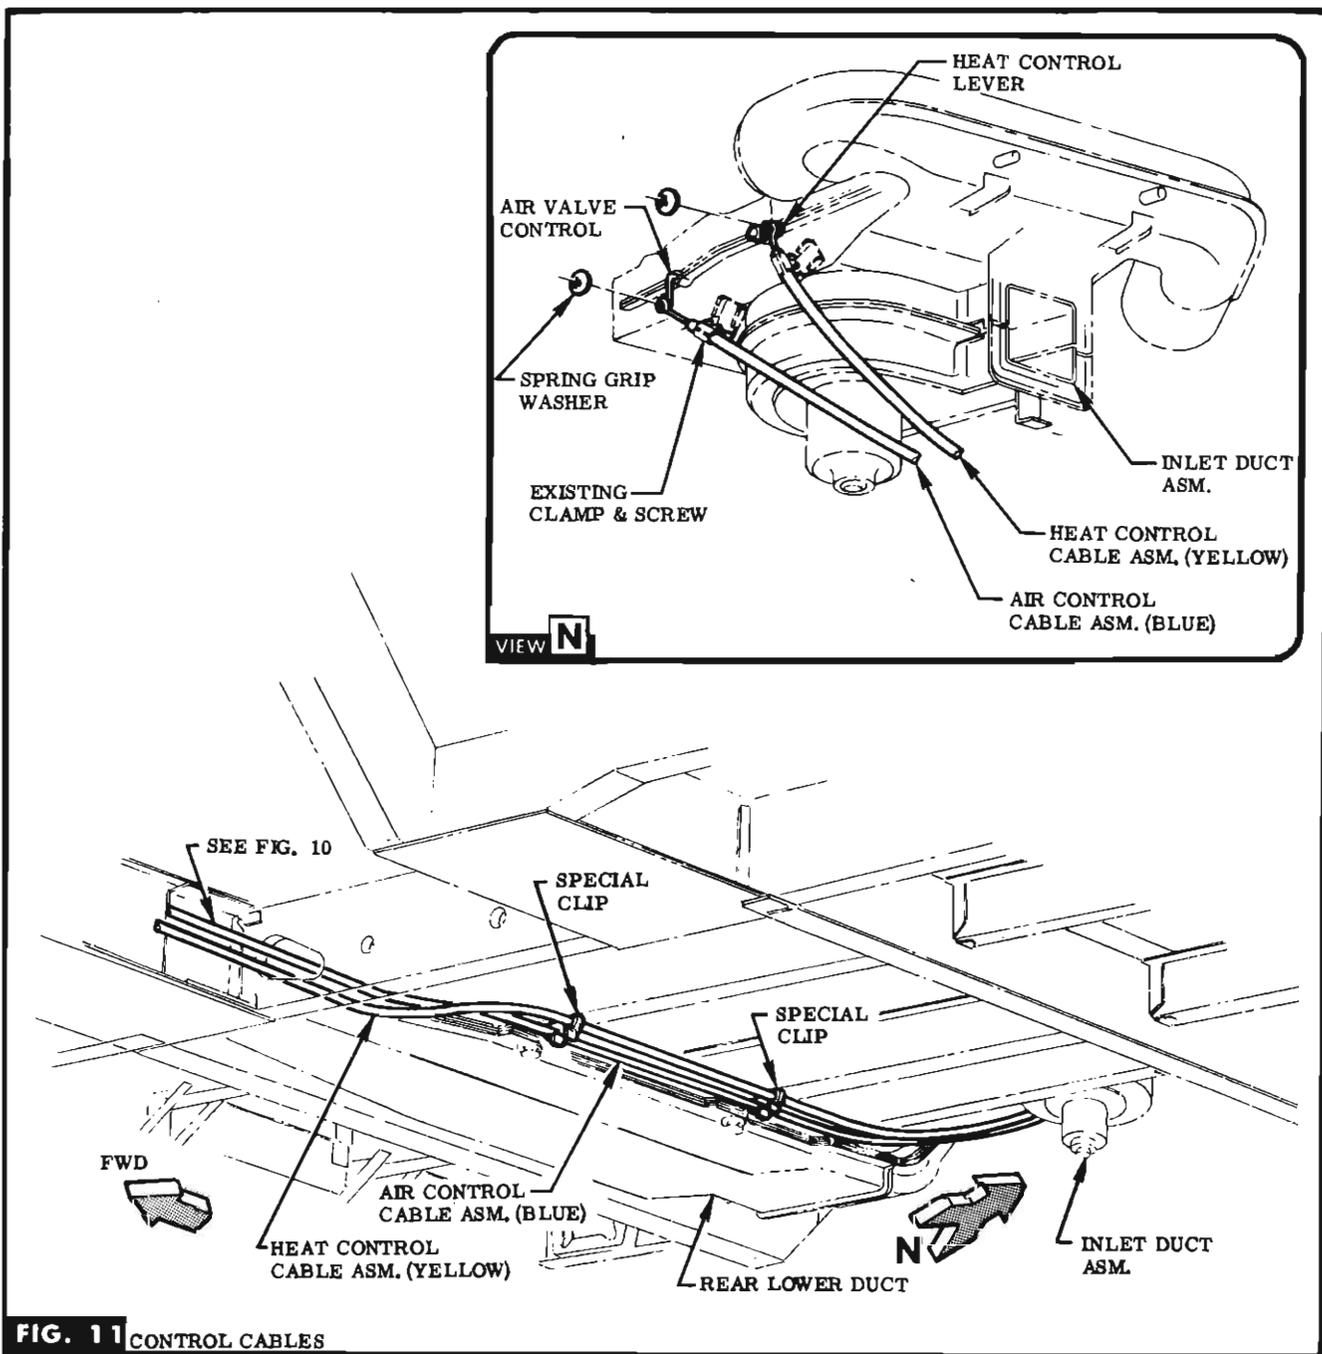

FIG. 11 CONTROL CABLES
STEP 57 INSTALL CLIPS (IN BAG B) TO INTERMEDIATE & REAR CROSSMEMBERS ALONG SIDE DUCT SECURING SCREWS. SEE FIG. 11.
STEP 58 ROUTE HEAT & AIR CONTROL CABLES REARWARD THRU OPENING IN CROSSMEMBER & THRU CLIPS JUST INSTALLED ON INTERMEDIATE & REAR CROSSMEMBERS. SEE FIG. 11.